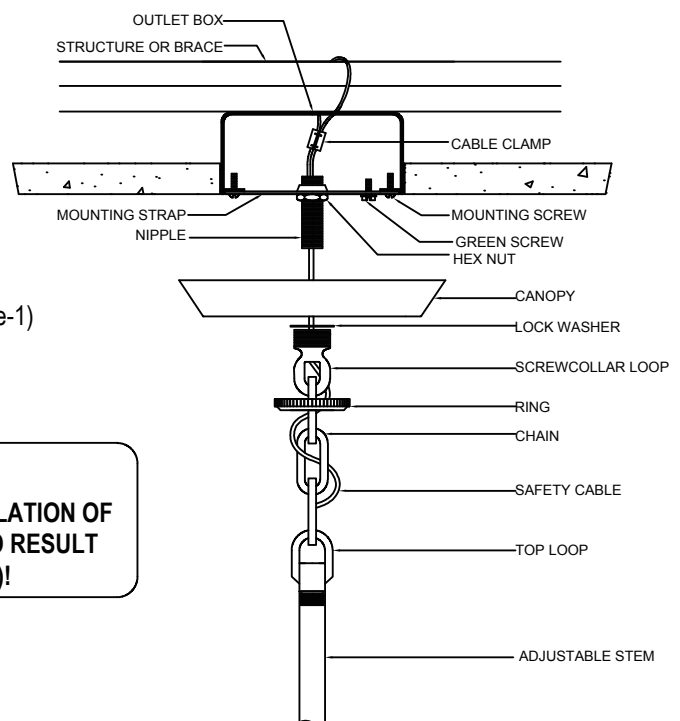

FIGURE-1
1. Attach the **SAFETY CABLE** to the building structure or brace (See figure-1)